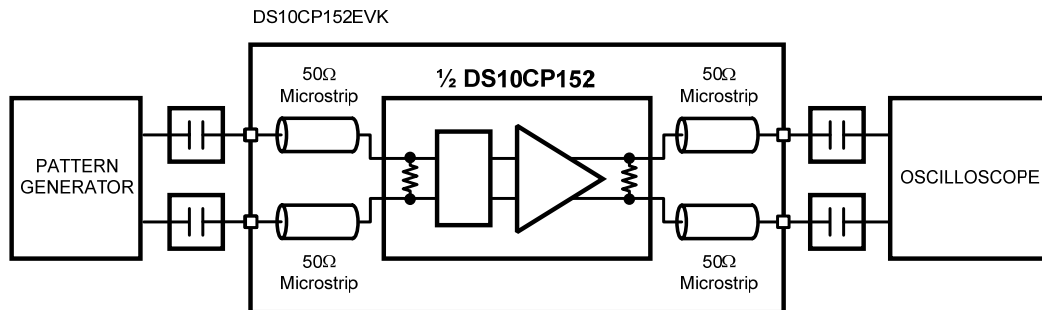

Figure 3. DS10CP152 Test Setup Example
This section provides recommended test setup procedure for the device evaluation. Figure 3 depicts a typical setup and instrumentation you may use for the device evaluation.
1. Configure the test setup as shown in Figure 3.